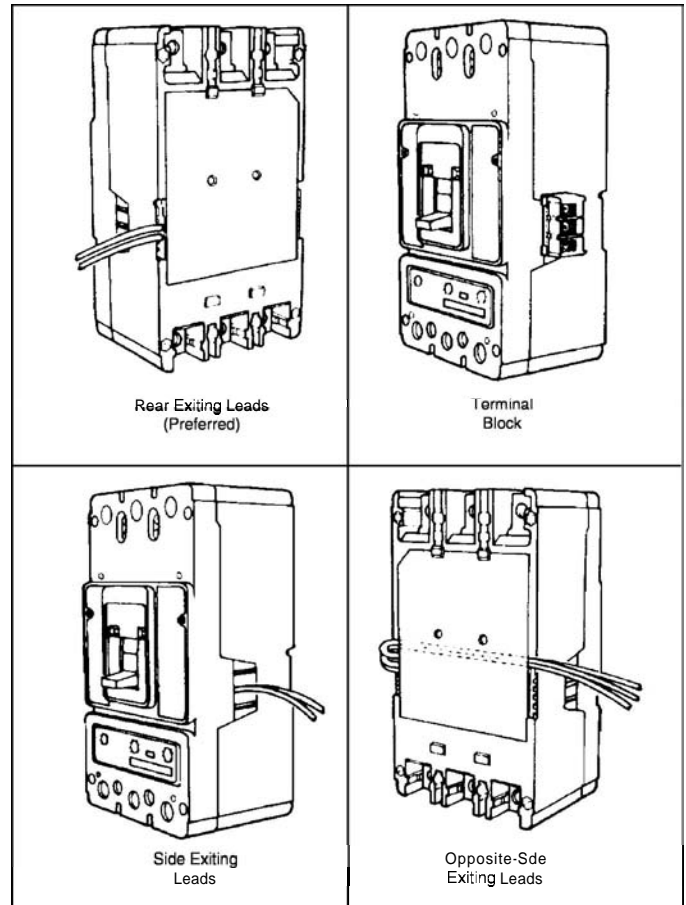

Figure 2-4 Accessory Wiring Options.
- 2-8. Route wiring to meet installation requirements (Figure 2-4). If required, complete routing of leads to opposite side through rear window trough.